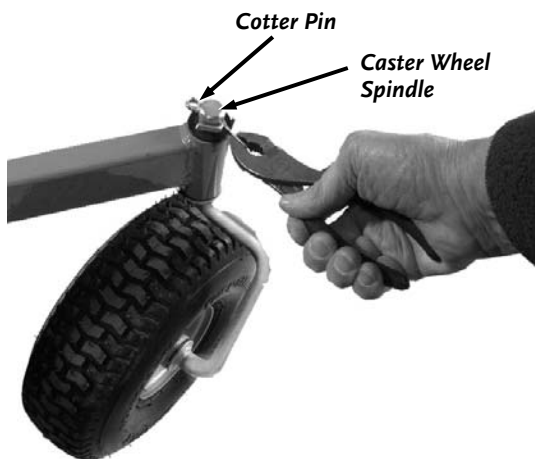

Figure 5
2. Insert the Caster Wheel Spindle into the Bushings from the bottom (Figure 5). Push the Cotter Pin into the Hole in the Spindle as far as it will go.